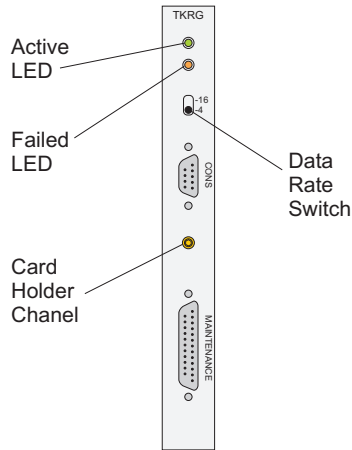

Figure 3-25. Data Rate Switch on Token-Ring Adapter Card
3. Note the position of the TKRG card LAN speed switch (Up=16 Mbps, Down=4 Mbps). Refer to Figure 3-25 on page 3-52.